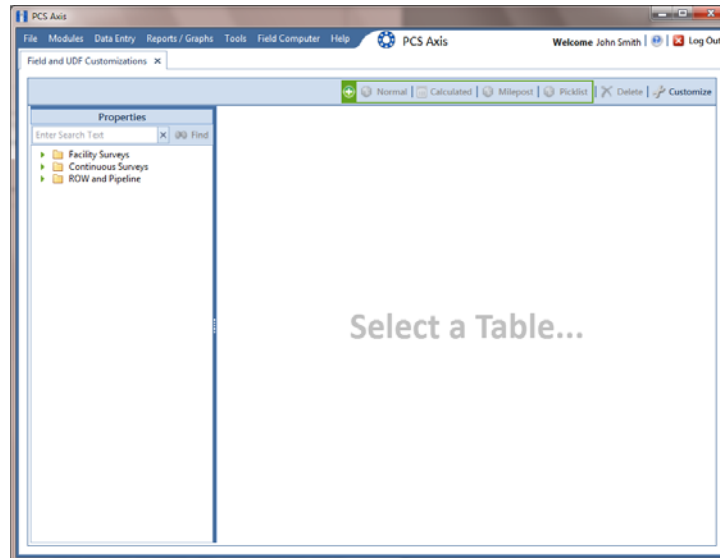

Figure 2-19. Field and UDF Customizations
- 1 Click **Tools > Field and UDF Customizations** to open the *Field and UDF Customizations* window (Figure 2-19).
- 1 Click **Tools > Field and UDF Customizations** to open the *Field and UDF Customizations* window (Figure 2-19, page 48).
- 1 If the *Field and UDF Customizations* window is not open, click **Tools > Field and UDF Customizations** (Figure 2-19, page 48).